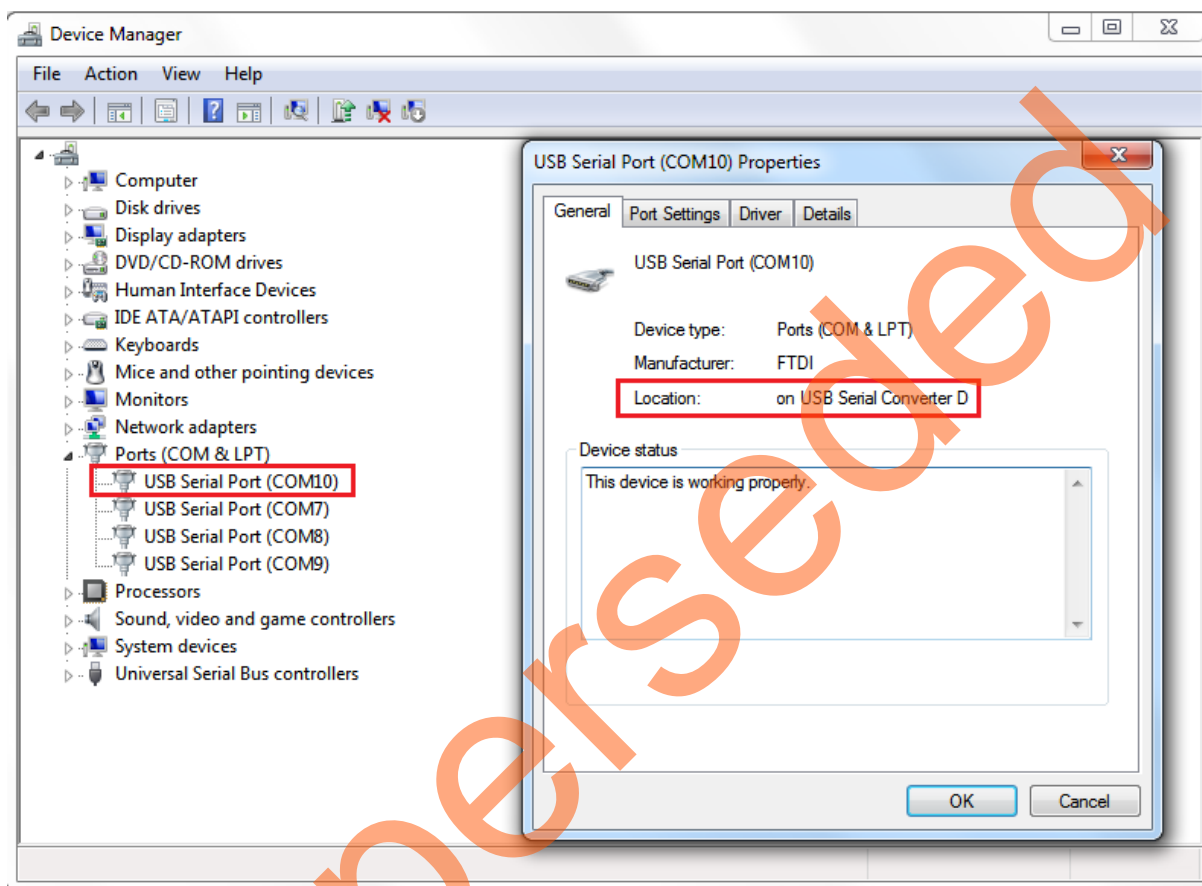

Figure 15 • USB Serial 2.0 Port Properties
5. Ensure that the USB to UART bridge drivers are automatically detected. This can be verified in the **Device Manager** of the host PC. The FTDI USB to UART converter enumerates four COM ports. For USB 2.0, note down the USB Serial Converter D COM port number to use it in the GUI. Figure 15 shows the USB 2.0 Serial port properties. As shown in Figure 15, COM10 is connected to USB Serial Converter D. Refer to "Appendix B: Finding Correct COM Port Number when Using USB 3.0" on page 32 for finding the correct COM port in USB 3.0.